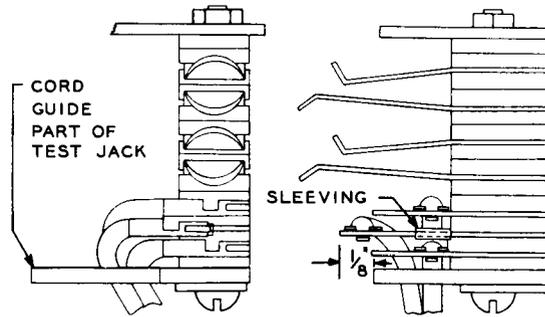

Fig. 15 – Method of Dressing and Connecting Wiper Cords at Test Jack Assembly
(1) To replace this assembly, tag and disconnect the leads connected to the test jack terminals at the rear of the test jack. Unsolder and tag the wiper cords from the front of the jack assembly.
(2) Loosen the test jack assembly mounting screw and nut, using the 3-inch C screwdriver and the 417A or 418A wrench. Mount the new assembly securely in position. The screw nearest the front of the switch which fastens the test jack assembly to the lower coverplate is only required on switches with a P-251147 commutator.
(3) Connect leads to the rear of the assembly. Dress and connect the wiper cords as shown in Fig. 15. If the wiper cords are M1G cords (M1G cords do not have cord tips), replace them with M1R cords as described in Section 030-705-804.